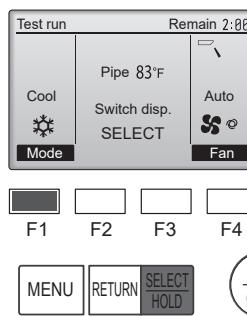

Fig. 6-5
- ① Press the [F1] button to go through the operation modes in the order of "Cool" and "Heat". (Fig. 6-5)